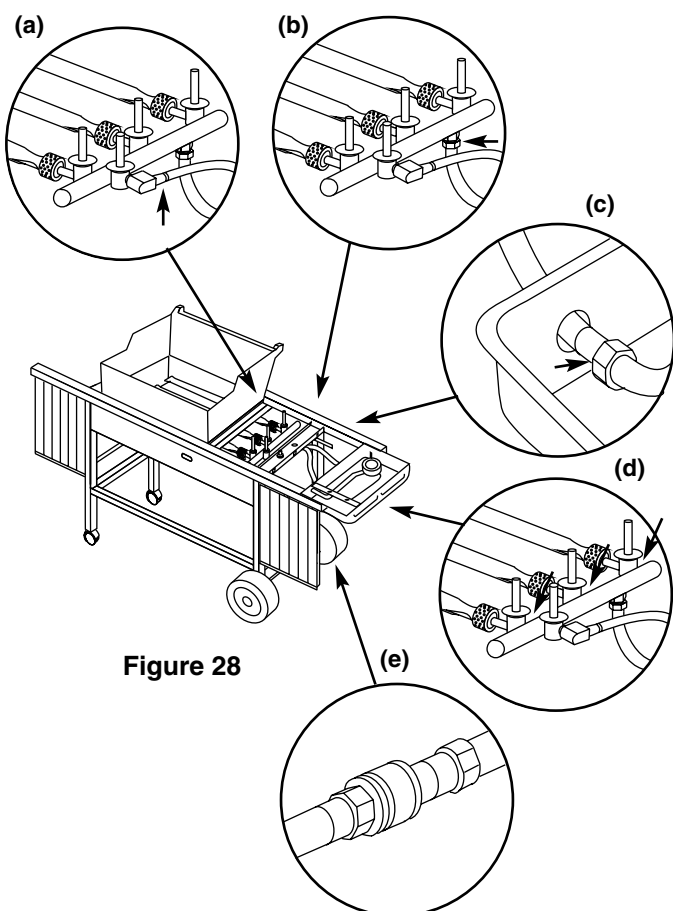

Figure 28
- a) Hose to manifold connection. Figure 28 (a).
- b) Manifold to side burner hose connection. Figure 28 (b).
- c) Side burner hose to side burner connection. Figure 28 (c).
- d) Valves to manifold connections. Figure 28 (d).
- e) Hose to quick disconnect connection. Figure 28 (e).